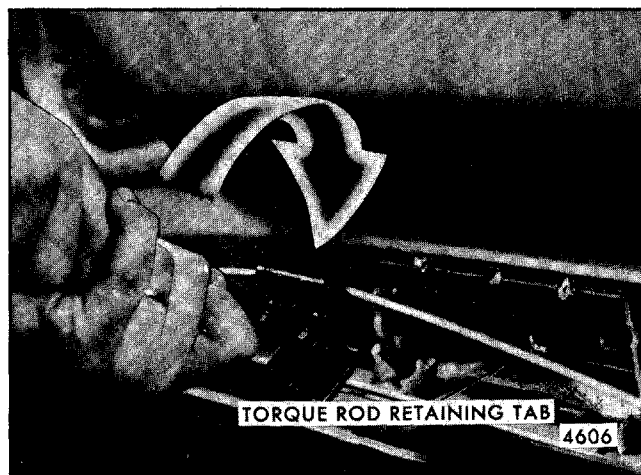

Fig. 7-6-Rear Compartment Lid Removal - "11" Styles
4. Firmly grasp tool J-24854 or equivalent with both hands and disengage torque rod loop from retaining tab on body side hinge half as shown in Figure 7-6. Carefully allow torque rod to unwind (180 degrees) as shown in Figures 7-6 and 7-7.